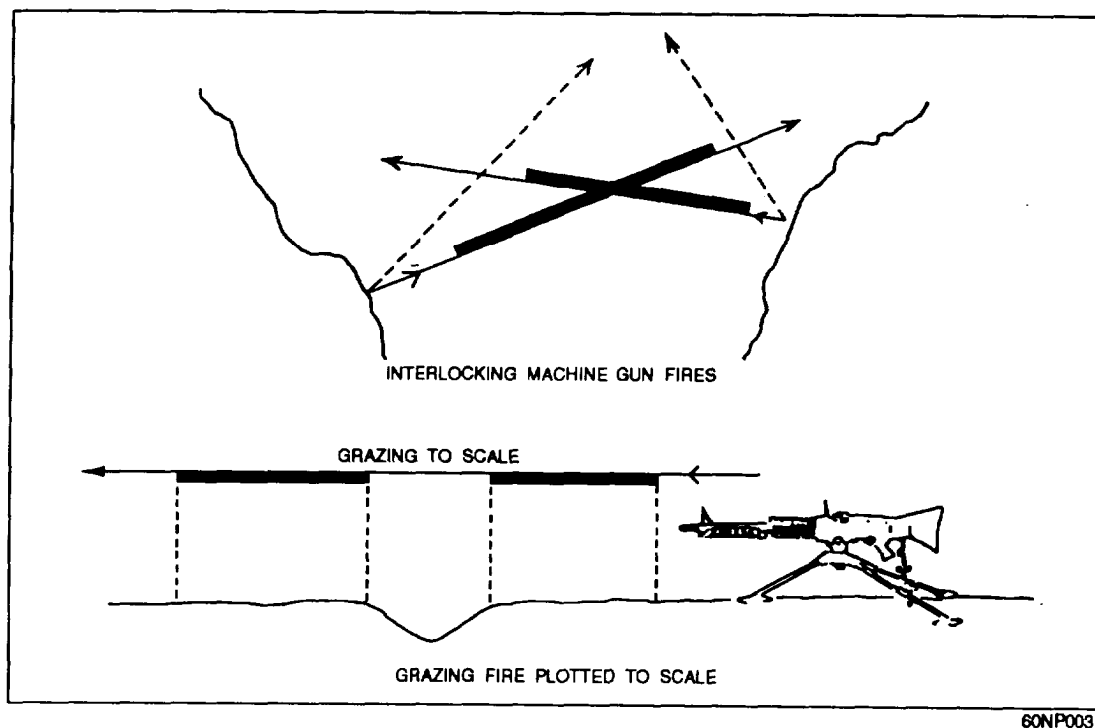

Figure 4-16.—Machine guns FPL and grazing fire.
3. **Grazing:** Final protective lines are located to obtain maximum grazing fire. Grazing fire is fire in which the trajectory of the bullets does not rise above the height of a man, standing. On flat or uniformly sloping terrain, machine gun fire grazes to a maximum range of 700 meters from the gun. Figure 4-16 shows a proper technique for graphically displaying final protective fire and gaps in its grazing fire on an overlay or sketch.